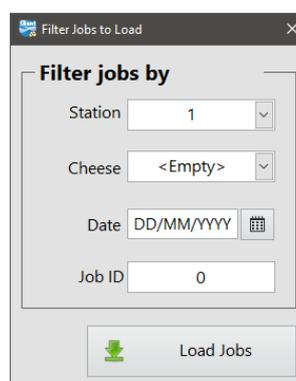

Figure 7 Filter menu
7. **Load Jobs:** This button will open a filter menu where the user can select which jobs will be loaded. As it is shown in Figure 7, the use can filter jobs by station, cheese type, date and job id. If no filter is selected, the software will load all jobs from the database.